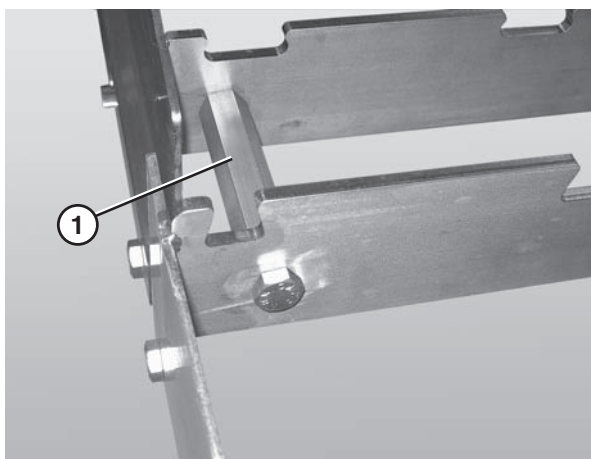

Figure 6
3. Connect the frame sections by bolting the hex post connectors (**Figure 6, item 1**) between frame sections. Be sure O-rings are seated properly on hex post and hex screws prior to tightening of screws to avoid damage to O-rings.